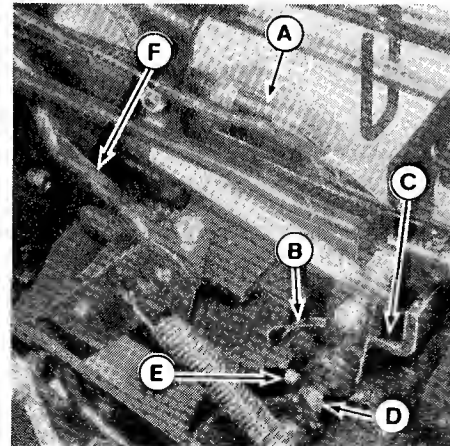

Figure 32. Idler Pulley Arm Adjustment - Six Speed
- b. Loosen setscrew in hub of cam lever (B, figure 32).